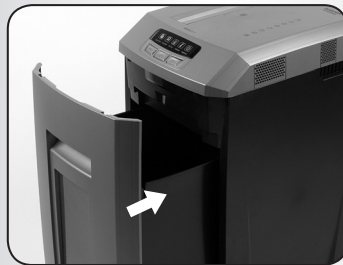

FIGURE 1
1. Make sure the basket door is securely closed shut. This shredder features a safety power cut off and will not operate if door is open. Shredders with pull-out wastebaskets feature a safety power cut off upon bin removal. The supplied wastebasket activates this switch, which allows the shredder to be operable. (FIGURE 1)